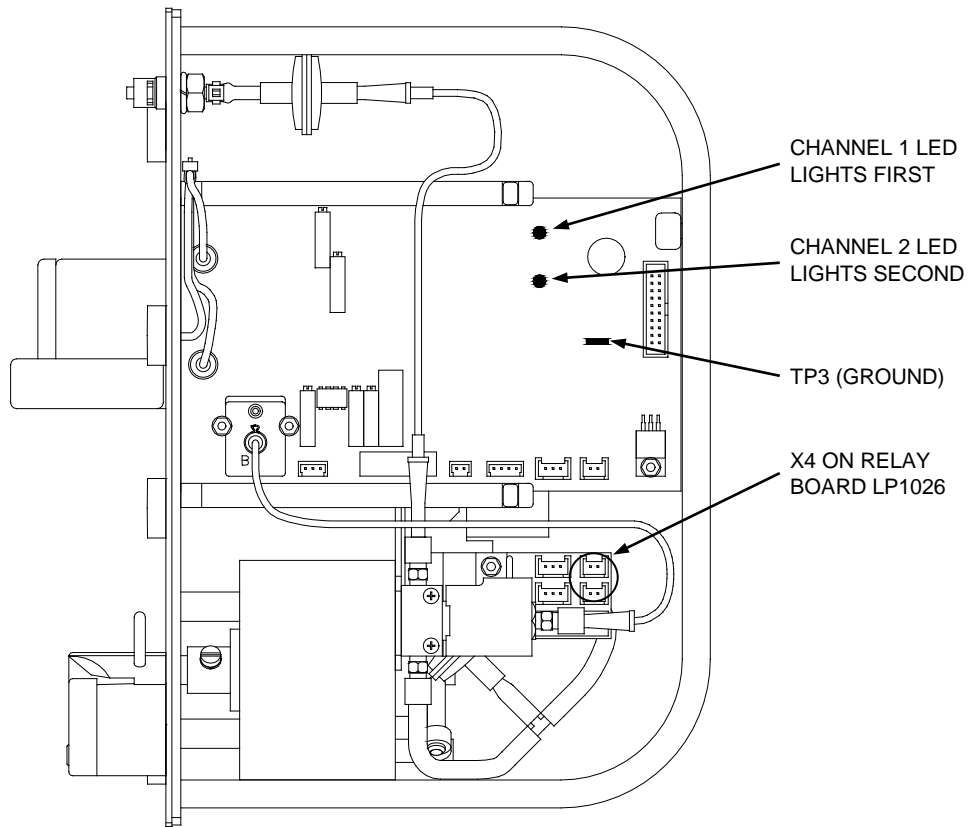

Figure 10 - Level Detector without Relay Contest Test LED's.
3. Position the Level Detector so you can watch the Channel 1 and Channel 2 LED's on the circuit board (See Figure 10).
- Use **Method 3** if LP1026 is present and does not have LED's D3 & D4 (See Figure 10).